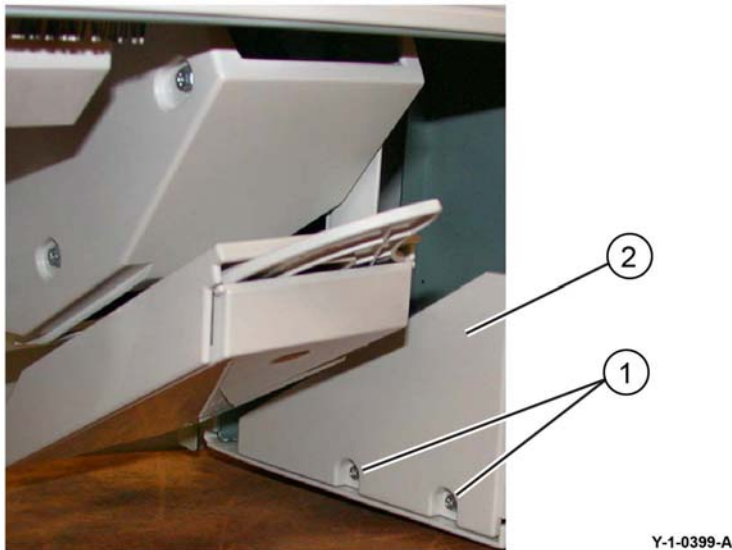

Figure 1 Preparation
3. Prepare to remove the booklet rear cover, Figure 1:
- a. Remove both self-tapping screws (1).
- b. Remove the booklet side cover (2).